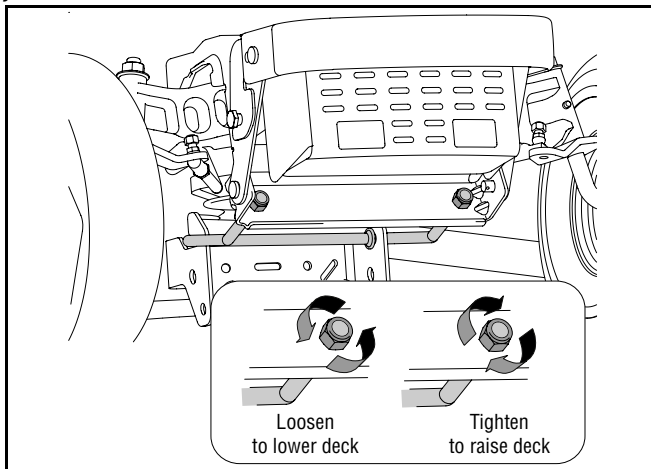

Figure 9
- Locate the lock nut on the front side of the stabilizer bracket. See Figure 9. Tighten the lock nut to raise the front of the deck; loosen the lock nut to lower the front of the deck.